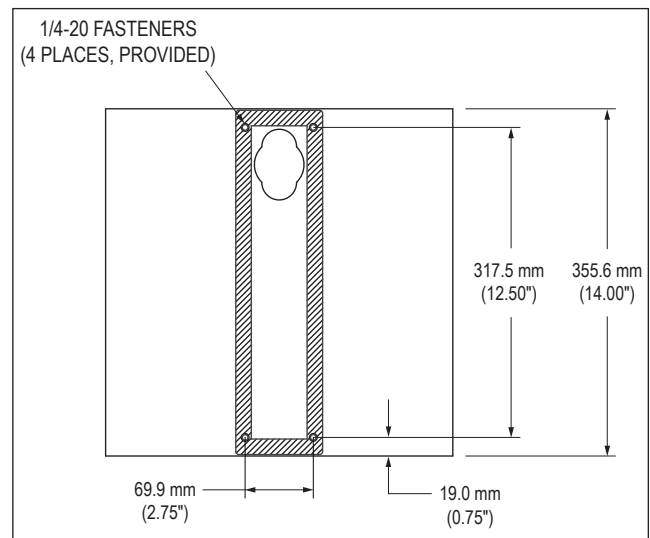

FIGURE 1 – REAR VIEW SHOWING MOUNTING PATTERN
1. Refer to Figure 1. Mount the enclosure to HIS pedestal using the provided four 1/4-20 bolts. Pre-tapped holes are provided on specific HIS pedestal models. If you will not be using an HIS pedestal, mount the enclosure to a smooth wall surface using the hole pattern shown in Figure 1, or use HIS part number WB-ENCL1-SS4 (not included). If enclosure wiring is not going through the rear hole already provided, punch conduit holes as required.